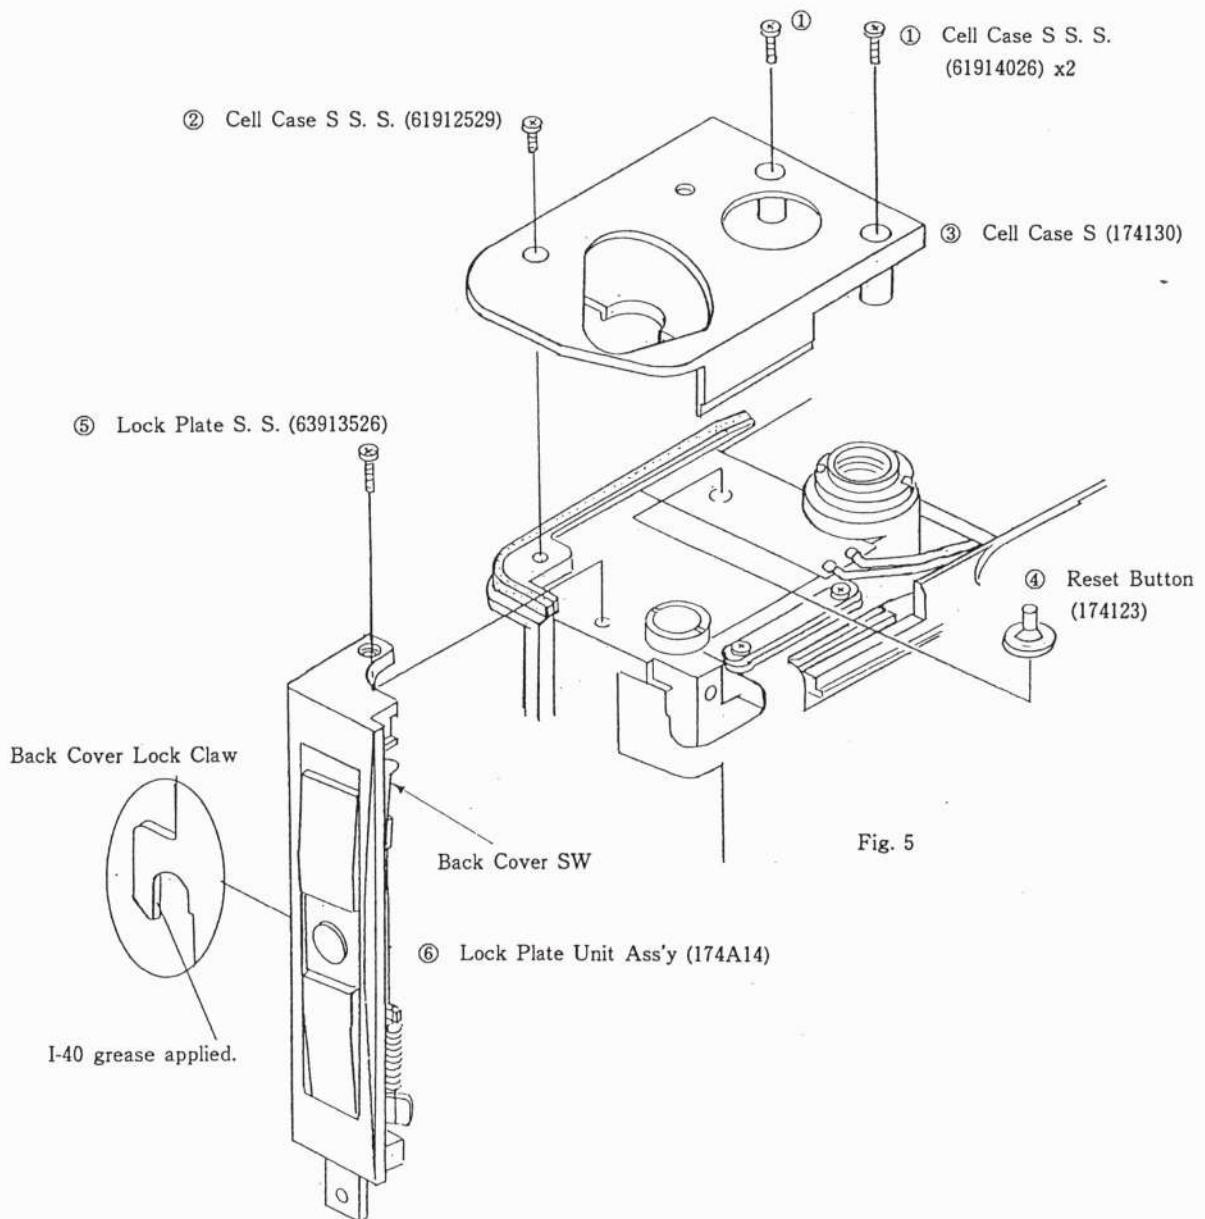

Fig. 5
- 1) Remove the respective parts ①~⑥ shown in (Fig. 5) in numerical order.